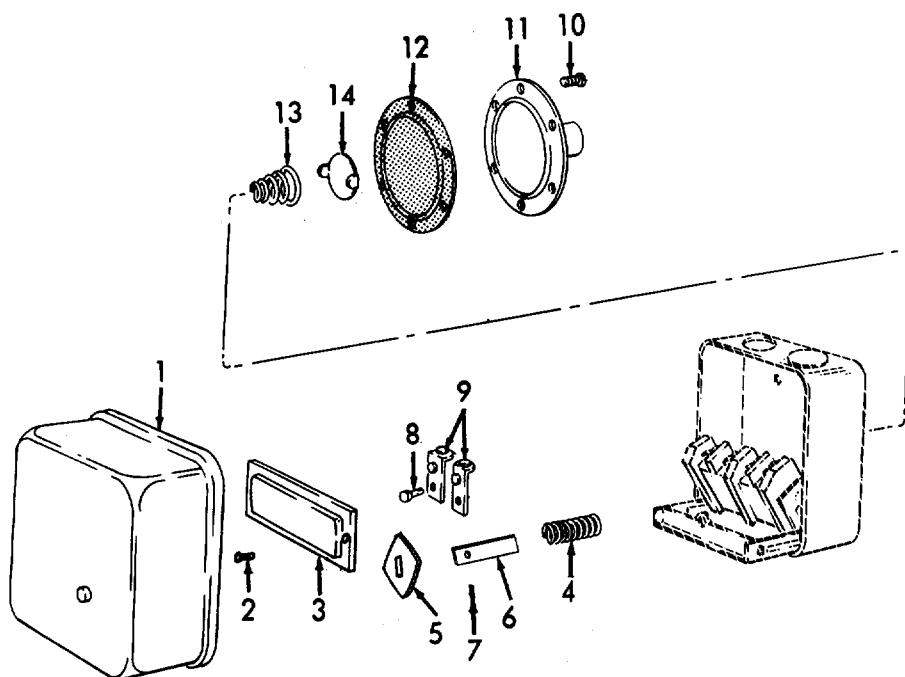

Figure 3-8. Pressure Switch Repair.
(1) Inspect for missing or damaged hardware.
(2) Inspect pressure switch for damage.
*d. Repair.* Repair of the pressure switch is limited to the replacement of the component parts contained in the pressure switch repair kit (refer to TM 5-4310-377-23P) . Refer to Figure 3-8 and proceed as follows to repair the pressure switch.